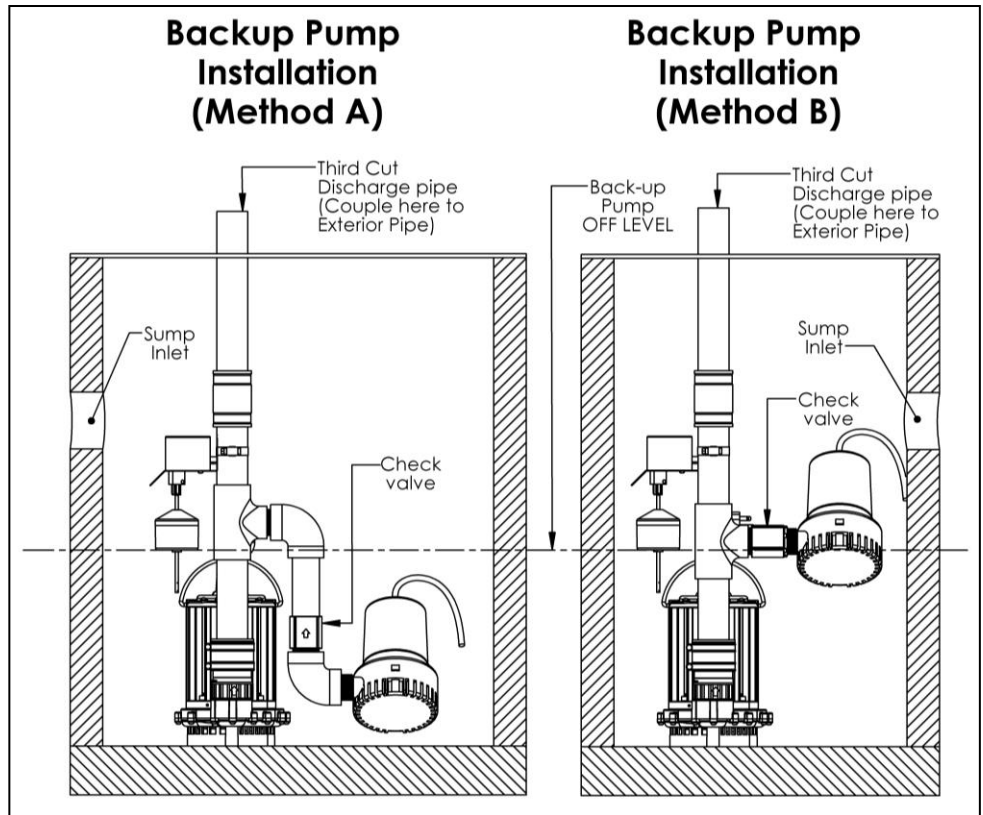

Figure 6 – Make the third cut to remove the excess discharge pipe.
3. Make the third cut. See Figure 6.